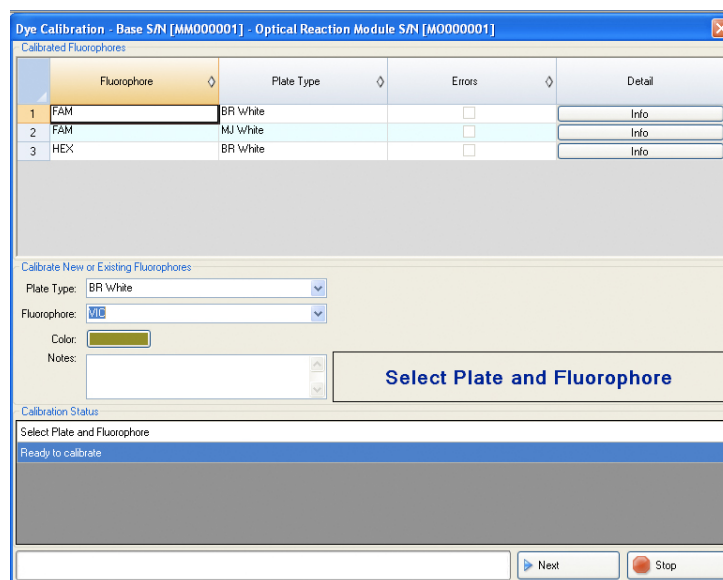

Figure 85. Dye Calibration window.
2. Select **Tools > Dye Calibration Wizard** to open the Dye Calibration window and calibrate new dye and plate combinations (Figure 85).
Figure 85 shows an example of the Dye Calibration window.